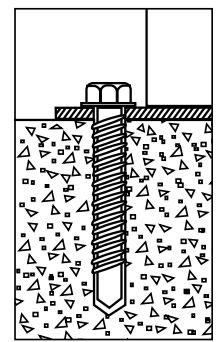

Figure 6
9. Insert the four concrete Wedge-Bolt anchors into the corner holes of the mount. Begin tightening the Wedge-Bolt anchor by rotating clockwise and applying pressure in toward the base. This will engage the first few threads as the Wedge-Bolt anchor begins to advance. Continue to tighten until the head of the Wedge-Bolt anchor is firmly seated against the post mount (Figure 6). Repeat for the remaining Wedge-Bolt anchors.